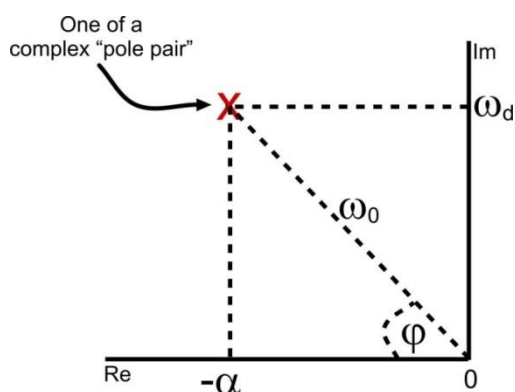

Figure 6: S-plane with Complex pole
- If $\xi < 1$ it will have complex poles which can be represented in the s-plane as in Figure 6.